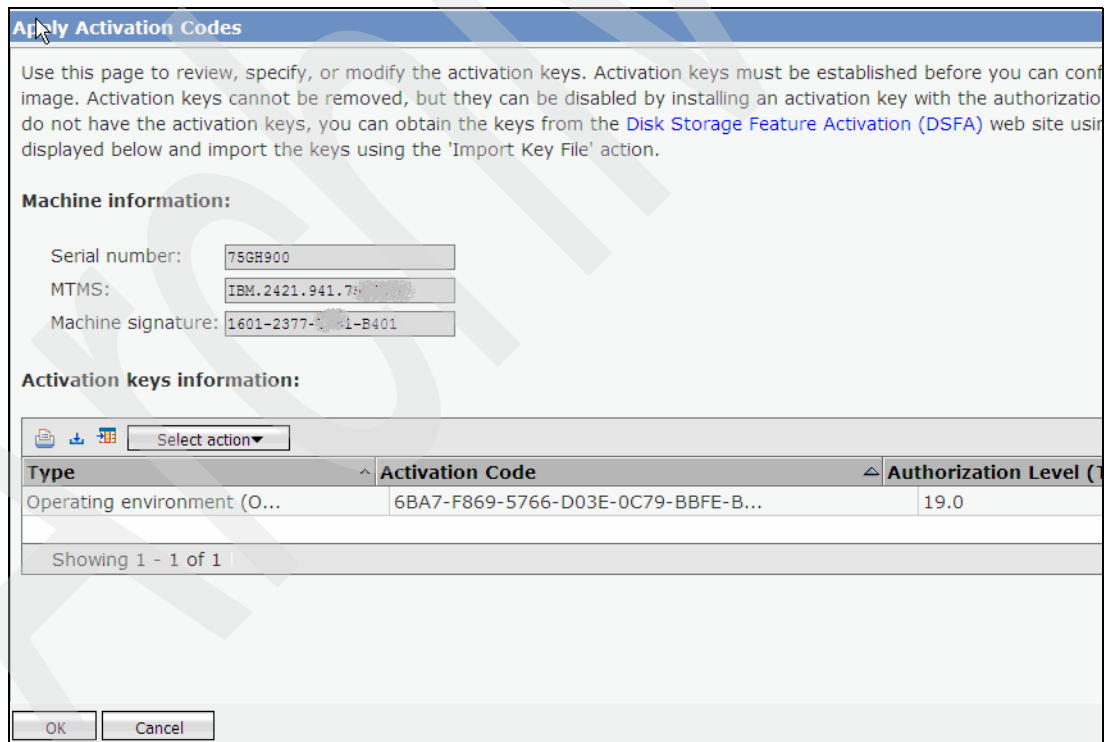

Figure 10-14 Apply Activation Codes window
- Your license is now listed in the table. In our example, there is one OEL license active, as shown in Figure 10-14.